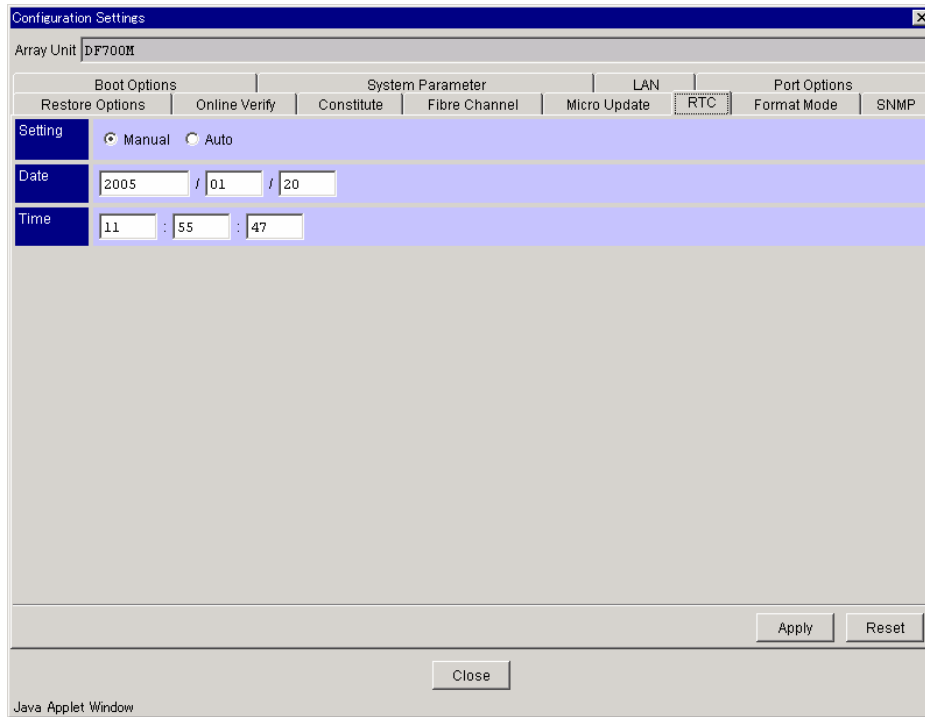

Figure 9.18 Configuration Settings - RTC
2. Click the **RTC** tab. See Figure 9.18.